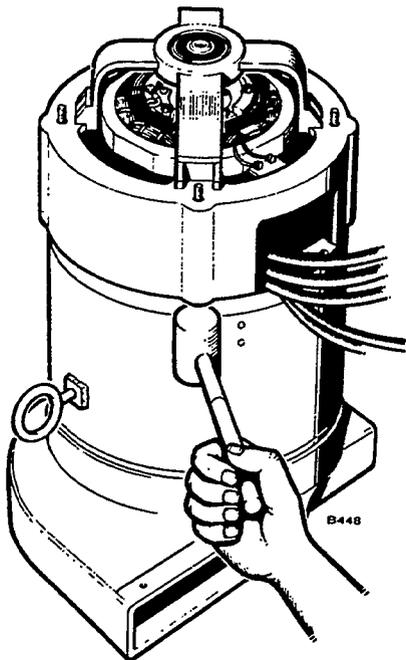

FIGURE 56. FREEING END BELL FROM STATOR
4. Remove end bell by tapping upward around joint and separating it from stator assembly, Figure 56.